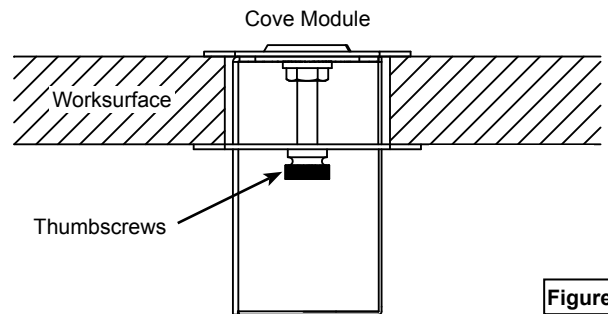

Figure 8.2
3. Replace locking tabs and secure with thumbscrews. **Figure 8.2.**